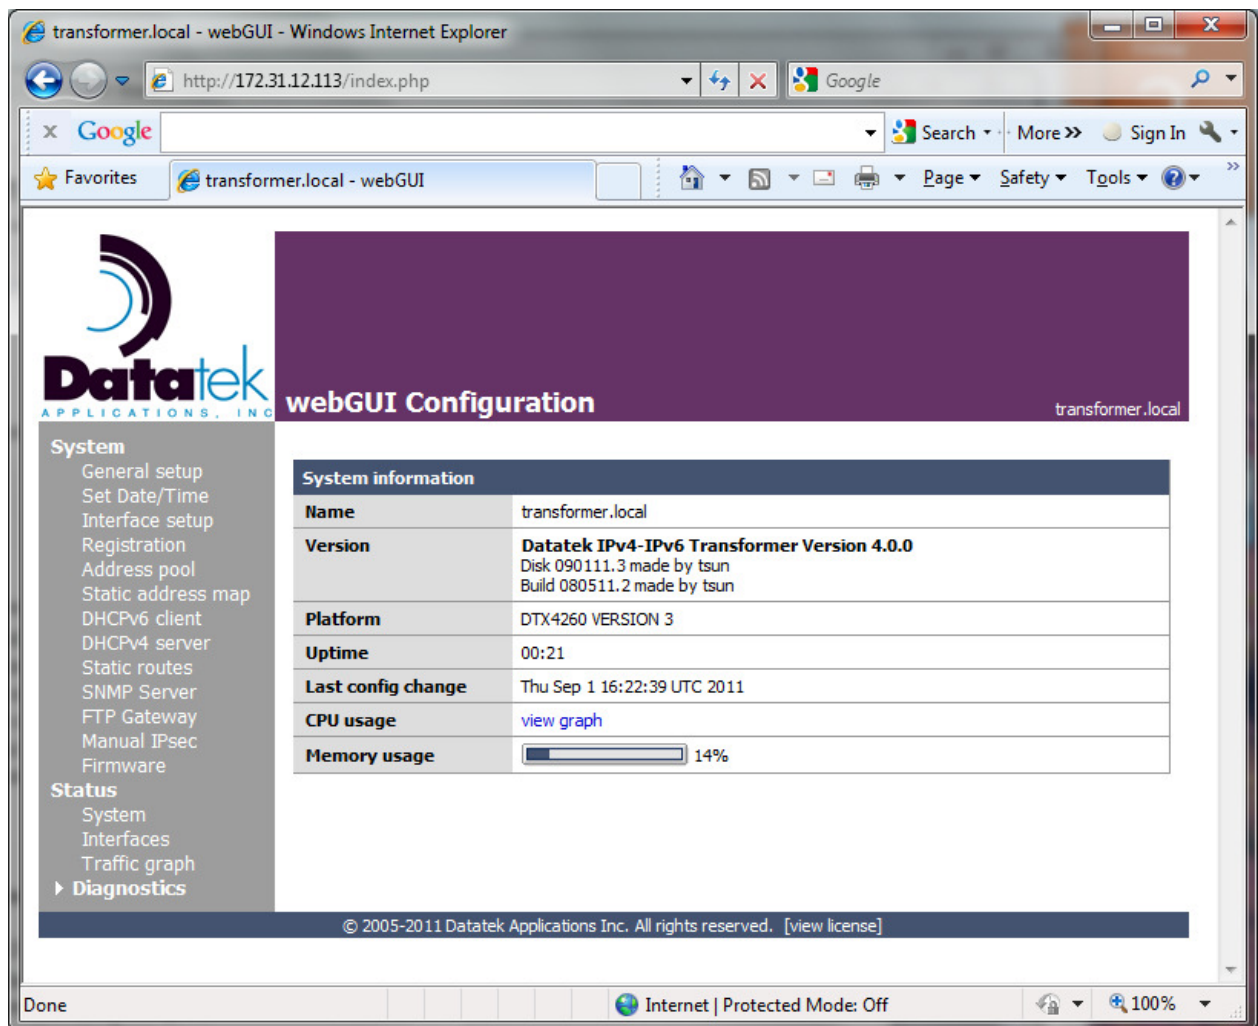

Figure 7. System Information Screen
4. After logging in, the Transformer's **Figure 7. System Information Screen** below will appear.